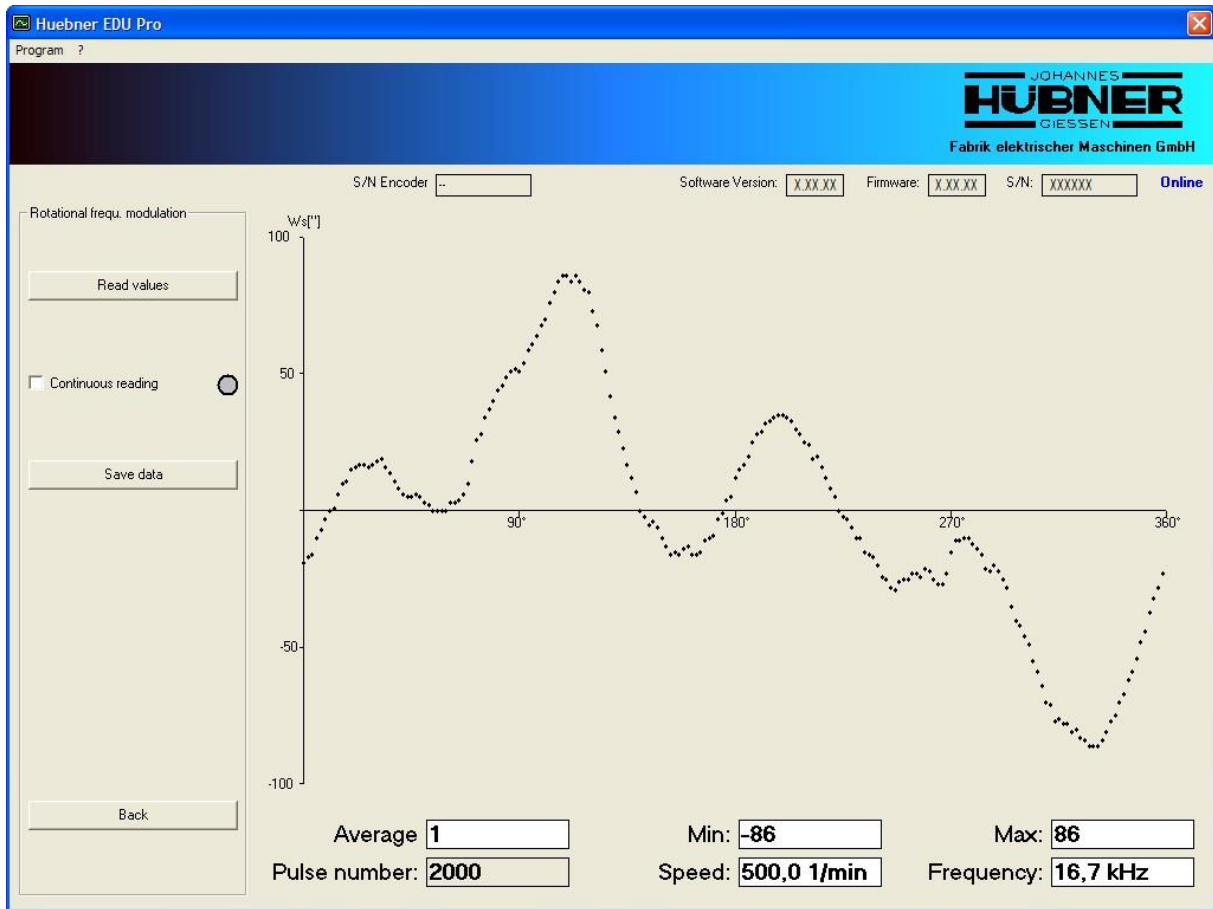

Fig. 14: Rotational frequency modulation
3. – “Rotational frequency modulation” button (ONLINE measurements). Continue Fig. 14.